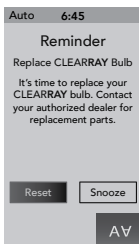

Figure 15.0c
19. **CLEARRAY Replacement Reminder:** This message will appear when the CLEARRAY bulb reminder time has expired (Figure 15.0c). The CLEARRAY bulb must be replaced.